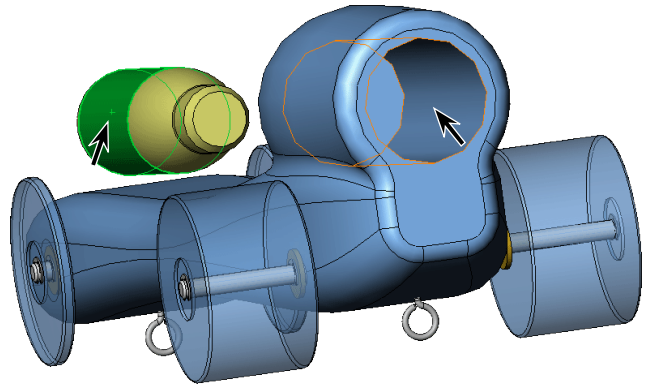

Fig. 24
Step 2. Click **cylindrical face of cartridge** and **cylindrical face of cartridge hole**, **Fig. 24**.